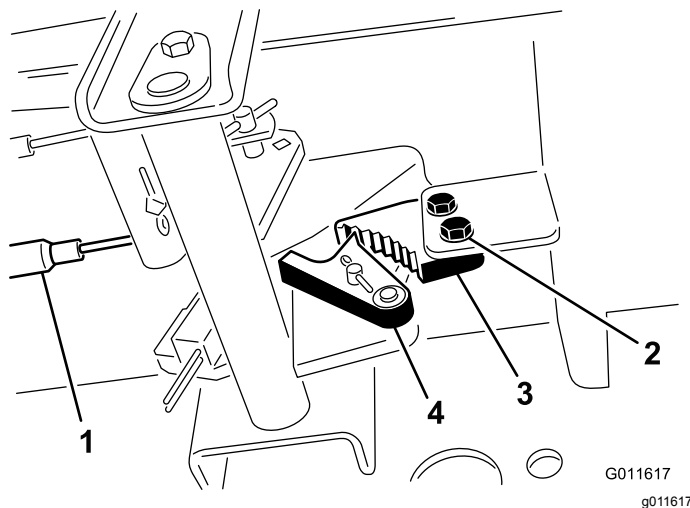

Figure 64
1. Loosen the 2 screws securing the parking-brake pawl to the frame (Figure 64).
2. Press the parking-brake pedal forward until the brake detent completely engages on the brake pawl (Figure 64).